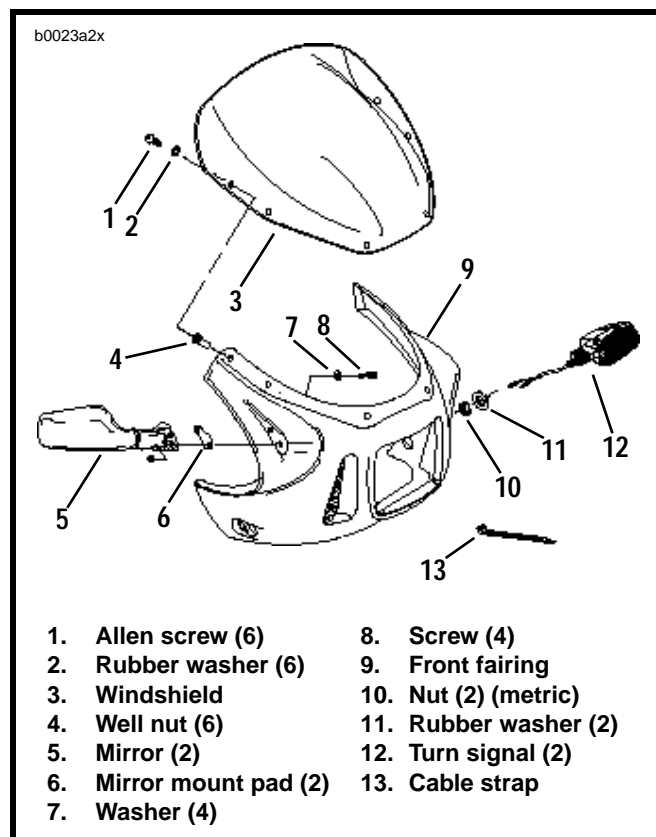

Figure 1. Front Fairing
1. See Figure 1. Cut cable straps (13) which secure turn signal wires to front fairing bracket.
3. Remove both turn signal nuts (10) (metric) using a ratcheting wrench. Remove rubber washers (11) and turn signals (12).
4. Remove both mirror mounting screws (8) and washers (7) using a 1/4 in. drive ratchet. Remove mirrors (5) and mirror mount pads (6)..
3. See Figure 1. Place fairing (9) on front fairing bracket with mirror mounts aligned to bracket mounting holes.
4. Loosely install rubber mirror pads (6), mirror mounting screws (8) and washers (7).